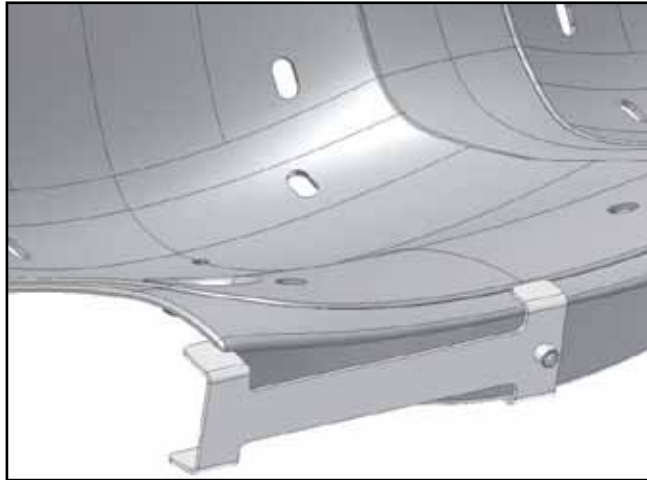

Figure 3 - Drilling Jig (N69444)
- 1.6. Use the drilling jig, N69444, in order to locate the center of the hole to be drilled. Drill a 1/8" (3 mm) pilot hole. See Figure 3. The same drilling jig is to be used for the holes on both seats.